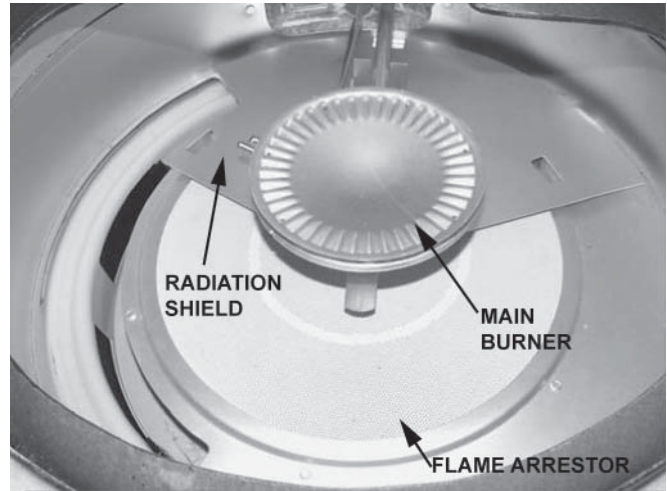

Figure 5
7. Inspect the radiation shield (thin circular metal sheet under the burner and above the flame arrestor), see Figure 5. If any of the sides of the radiation shield are